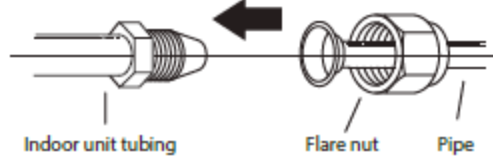

Fig. 6.7
1. Align the center of the two pipes that you will connect. See Fig. 6.7.